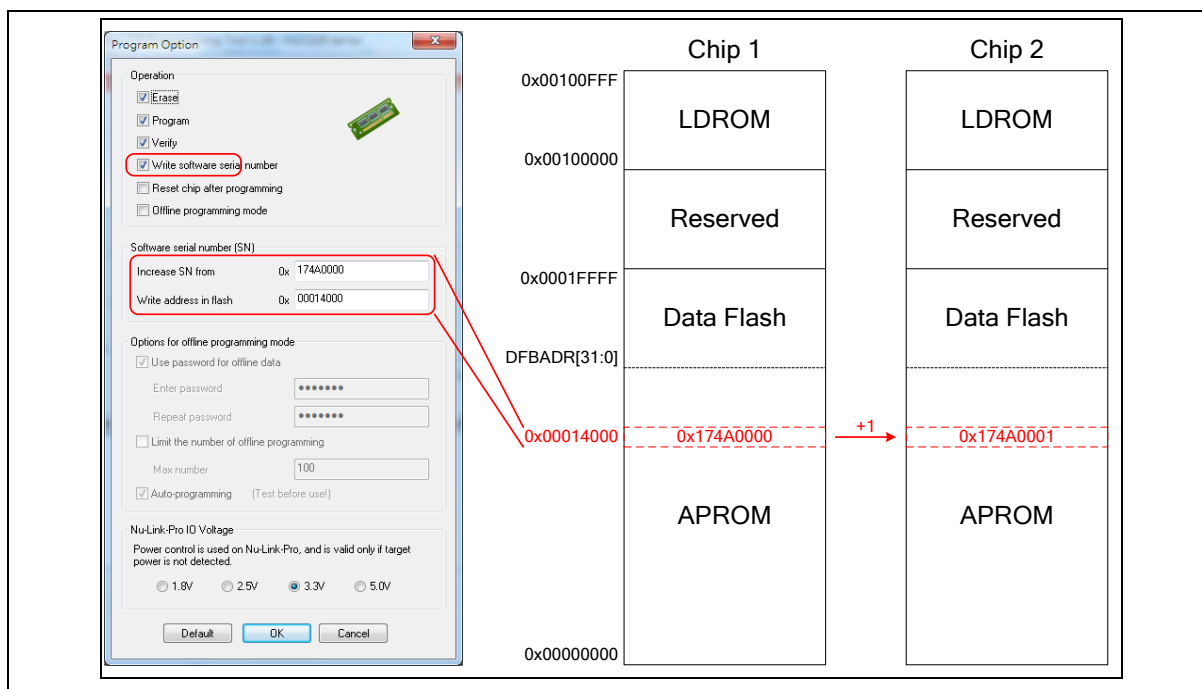

Figure 4.2-3 Software Serial Number (SN) Settings
4.2.4 Software Serial Number (SN)
The Software Serial Number (SN) function provided by the ICP Tool enables users to specify the value in the “**Increase SN from**” and “**Write address in flash**” fields for the target chip during online/offline programming. Take the M031 series chip for example, the user can specify a set of “Increased Serial Number (SN)” and “Write Address” to any of APROM, LDROM, and Data Flash, and the written Serial Number (SN) will be automatically incremented (as shown in Figure 4.2-3).